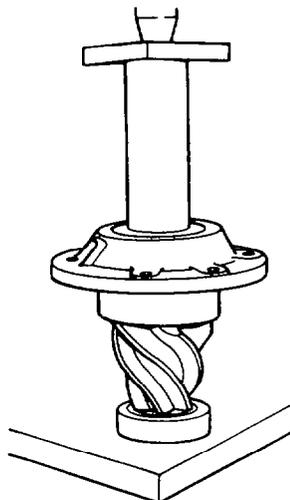

Fig. 355 — Installing Pinion Cage and Outer Bearing
- d. Fit the pinion shaft into the cage then lubricate and press the outer pinion bearing cone (item 36) onto the shaft. Refer to fig. 355.